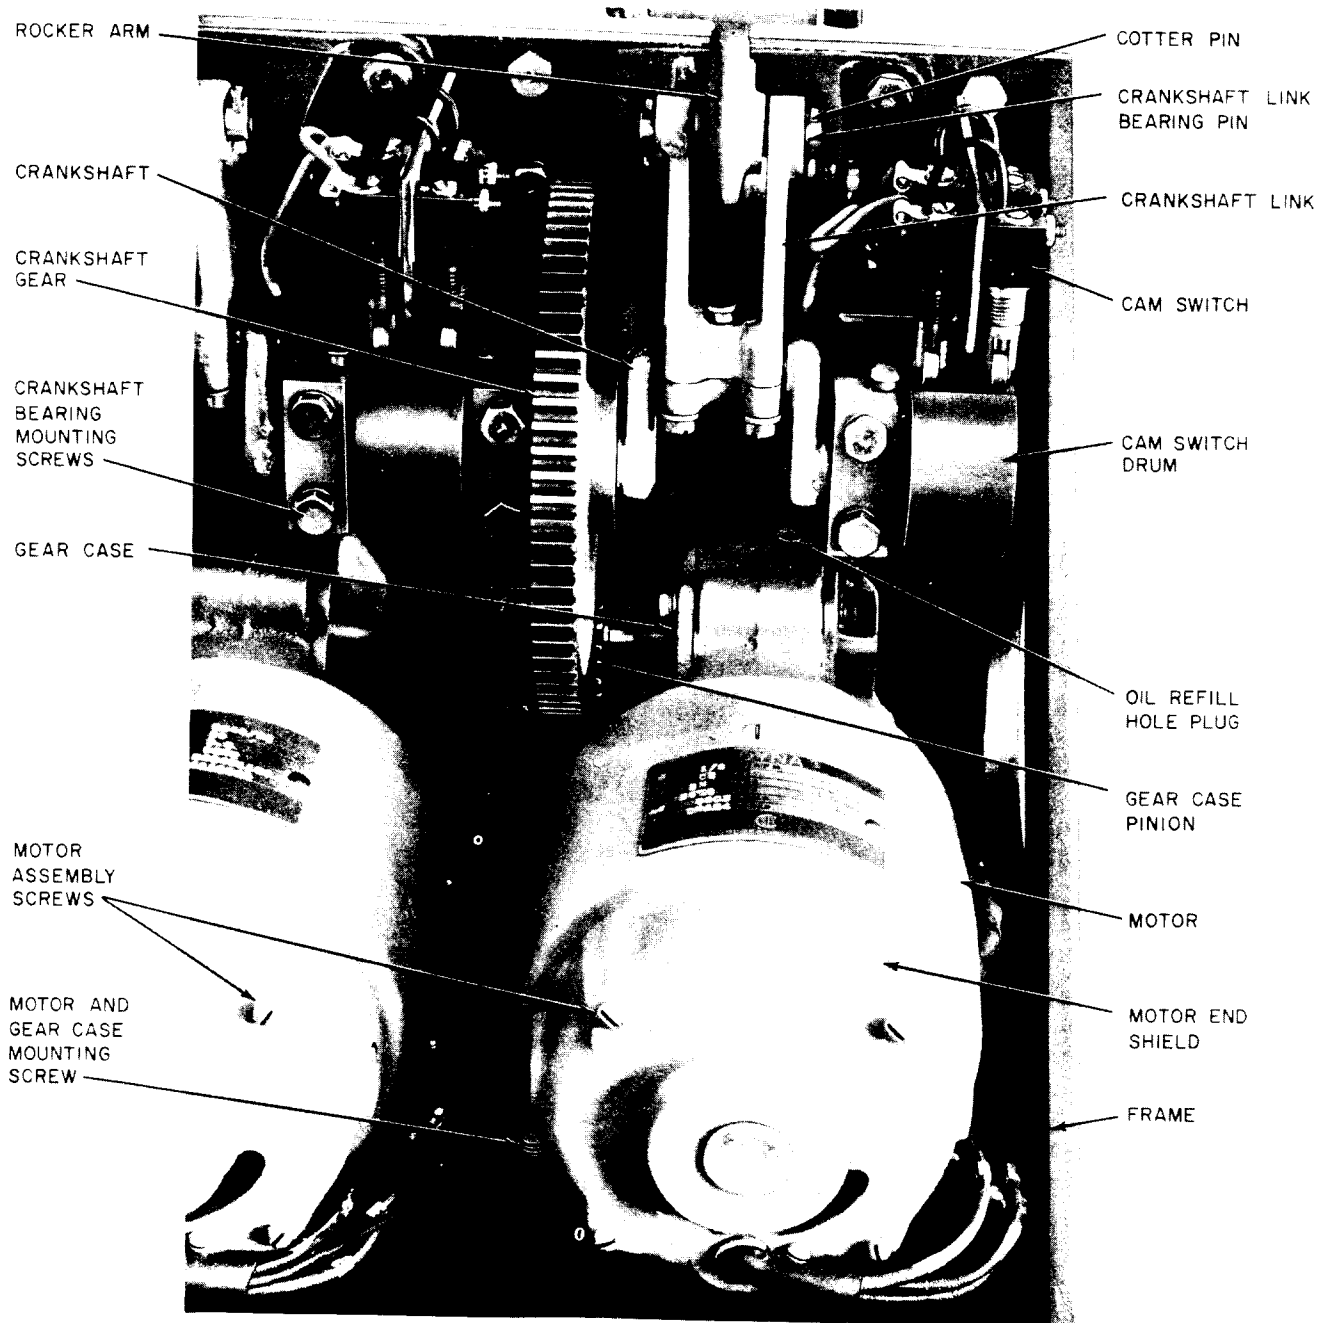

Fig. 4—Portion of KS-15836-Type Motor-Driven Switch Showing Motor and Crankshaft Assembly
1.10 Cam switches shown on Fig. 4 are the new improved type, and any new KS-5502 and KS-15836 switches ordered will include the improved cam switches. It is recommended that the new improved cam switches be applied to existing KS-5502 and KS-15836 switches where the old-type cam switches do not meet the requirements. Refer to Section 030-787-801 for replacement information.
- (b) **KS-5836 Motor-Driven Switch:** Fig. 4—Cam surface and roller followers shall be clean and free of lubricant.
(b) *KS-15836 Motor-Driven Switch:* Fig. 4